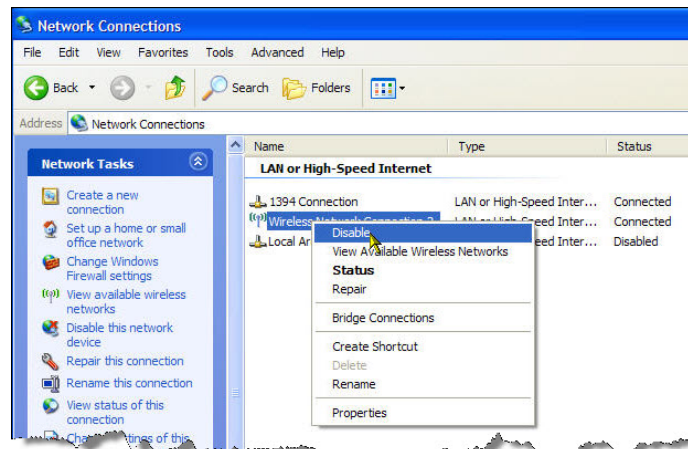

Figure 3
2. In that folder, create a folder for each meet that you will time. (This can be done just before the meet, and the steps to do this are listed in that area as well). You can use the names of the schools or the dates involved as folder names. A sample folder setup is shown in figure 3.